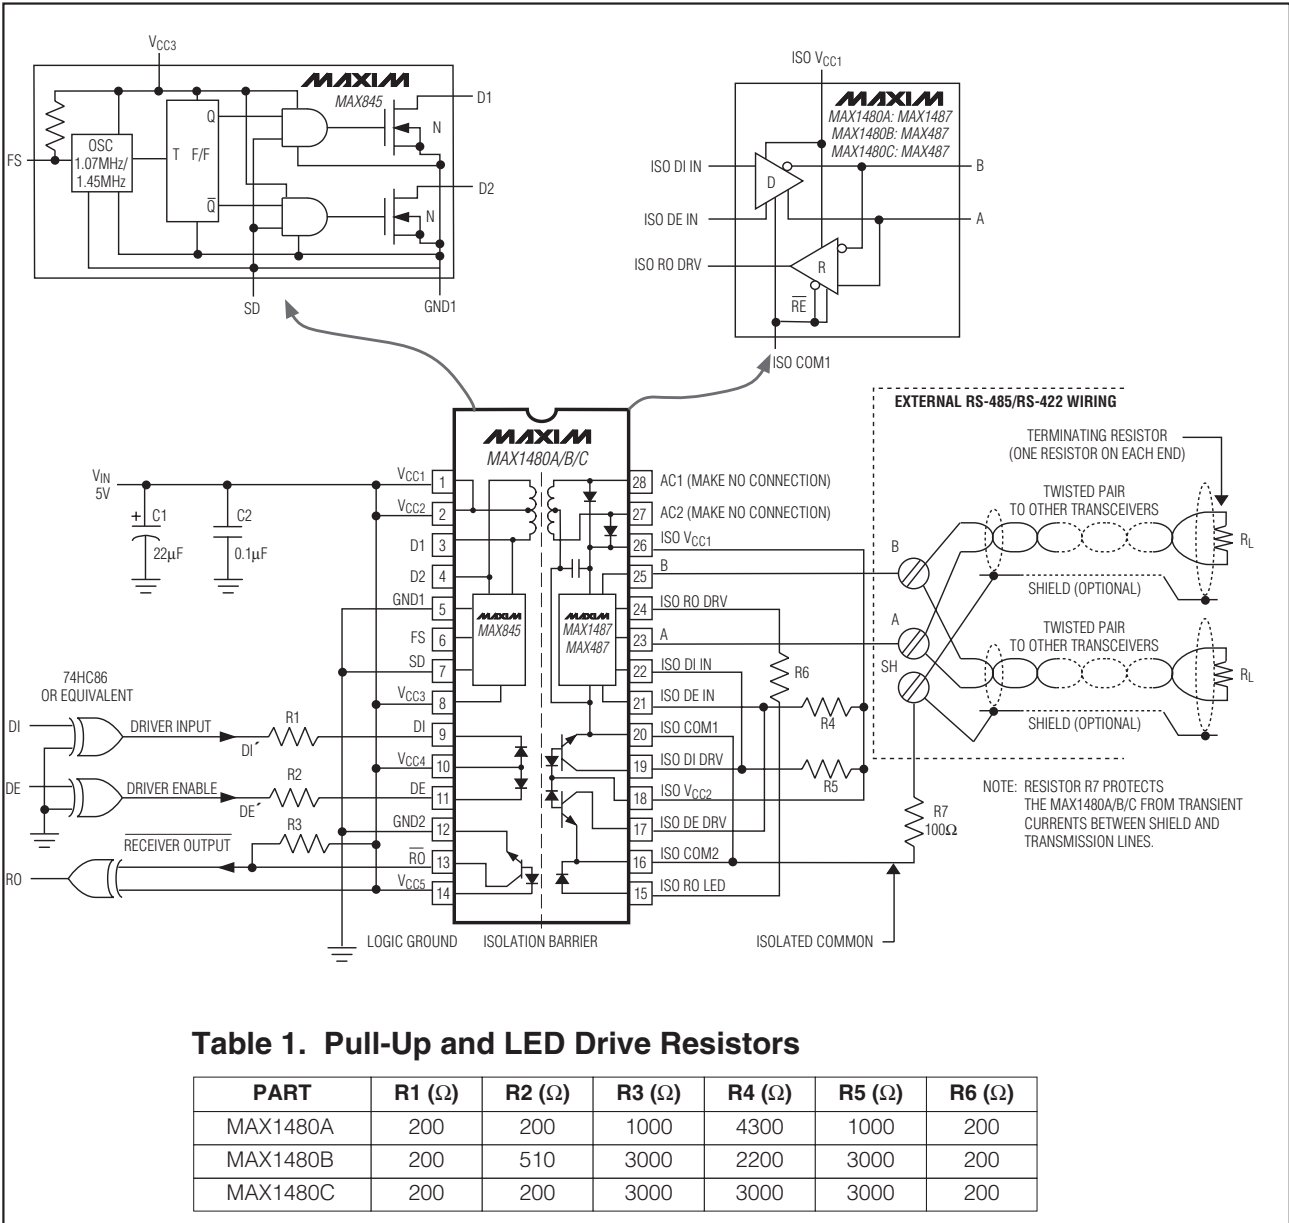
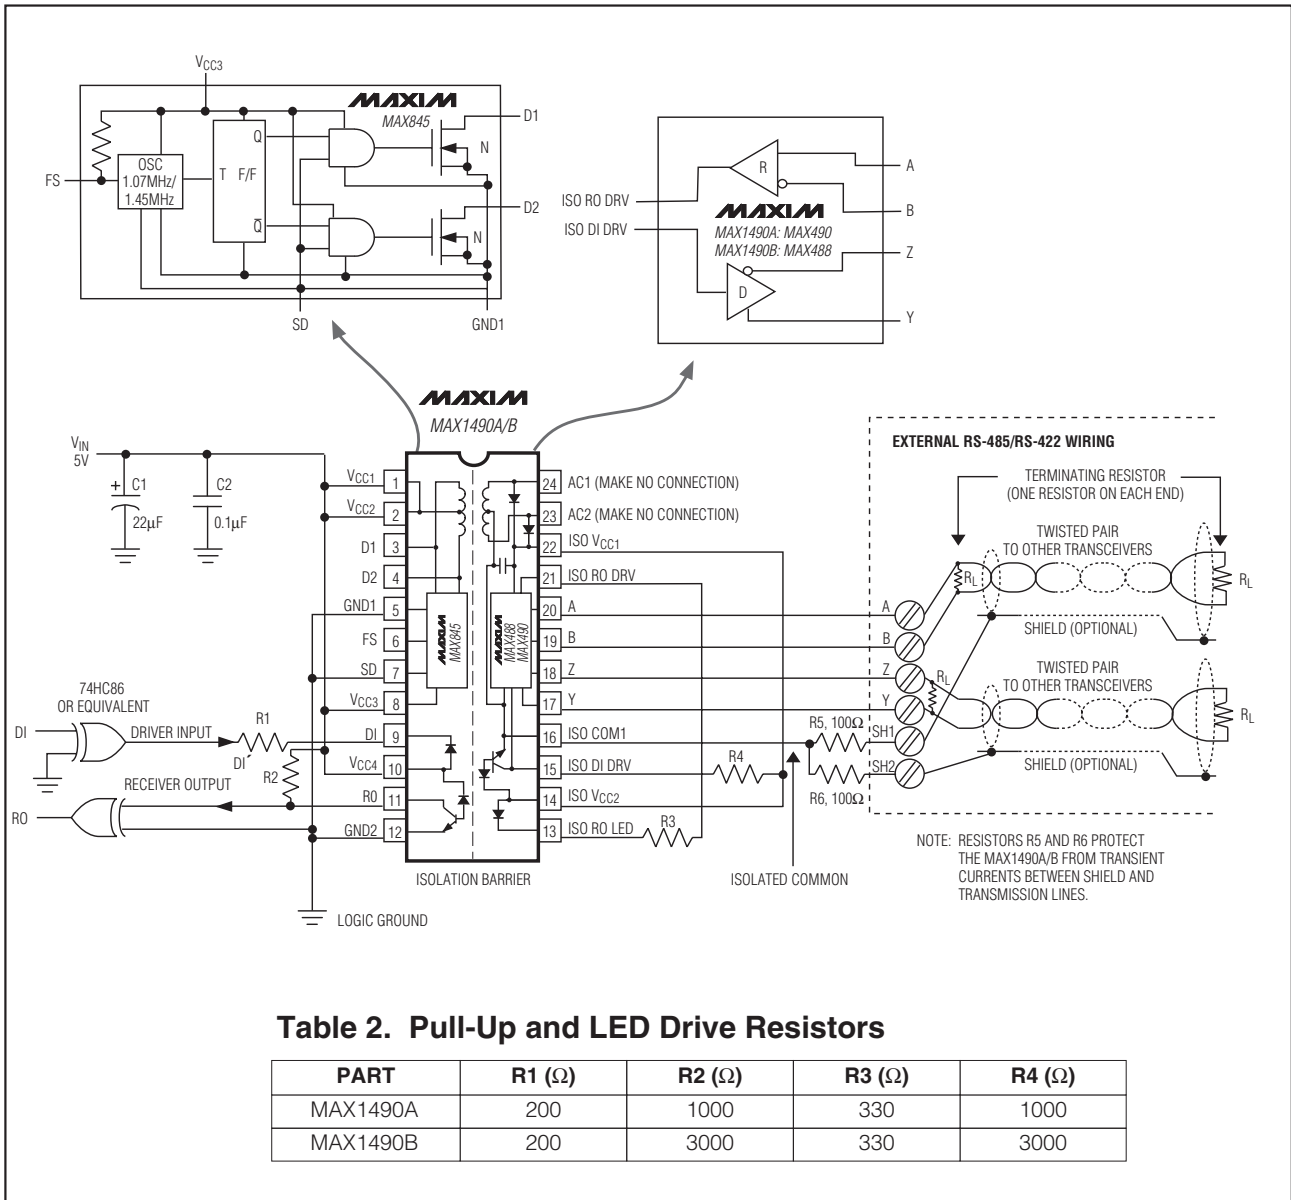

Figure 1. MAX1480A/MAX1480B/MAX1480C Detailed Block Diagram and Typical Application Circuit
Figure 2. MAX1490A/MAX1490B Detailed Block Diagram and Typical Application Circuit
Note 2: For DE' and DI' pin descriptions, see *Detailed Block Diagram and Typical Application Circuit* (Figure 1 for MAX1480A/MAX1480B/MAX1480C, Figure 2 for MAX1490A/MAX1490B).
Note: For DE⁺ and DI⁺ pin descriptions, see *Detailed Block Diagram and Typical Application Circuit* (Figure 1 for MAX1480A/B/C, Figure 2 for MAX1490A/B).
The MAX1480A/MAX1480B/MAX1480C/MAX1490A/MAX1490B are complete, electrically isolated, RS-485/RS-422 data-communications interface solutions. Transceivers, optocouplers, a power driver, and a transformer in one standard 28-pin DIP package (24-pin for the MAX1490A/B) provide a complete interface. Signals and power are internally transported across the isolation barrier (Figures 1, 2). Power is transferred from the logic side (nonisolated side) to the isolated side of the barrier through a center-tapped transformer. Signals cross the barrier through high-speed optocouplers. A single +5V supply on the logic side powers both sides of the interface. The MAX1480A/B/C offer half-duplex communications while the MAX1490A/B feature full-duplex communication. The functional input/output relationships are shown in Tables 3–6.
* For DE[̄] and DI[̄] pin descriptions, see *Detailed Block Diagram and Typical Application Circuit* (Figure 1 for MAX1480A/B/C, Figure 2 for MAX1490A/B).
The MAX1480A/MAX1480B/MAX1480C/MAX1490A/MAX1490B are specified and characterized using the resistor values shown in Table 1 of Figure 1 and Table 2 of Figure 2. Altering the recommended values can degrade performance.
The isolated common may be completely floating with respect to the logic ground and the effective network ground. The receiver input resistors will cause the isolated common voltage to go to the mean voltage of the receiver inputs. If using shielded cable, connect the isolated common to the shield through a 100Ω resistor. In the case of the MAX1490, each shield should have its own 100Ω resistor (Figures 1, 2, 13, and 14).